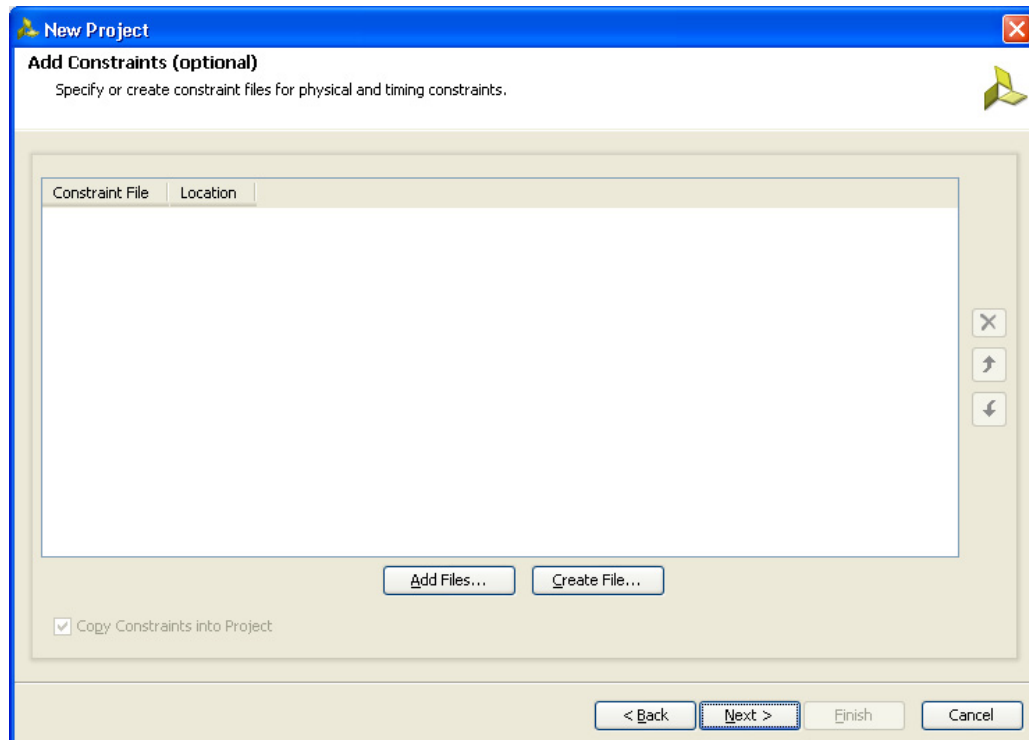

Figure 2-7: Add Constraints (Optional)
7. Click **Next** to open the Add Constraints (Optional) page (Figure 2-7). If the constraints file exists in the repository, it can be added to the project. Proceed to the next page if the constraints file does not exist.